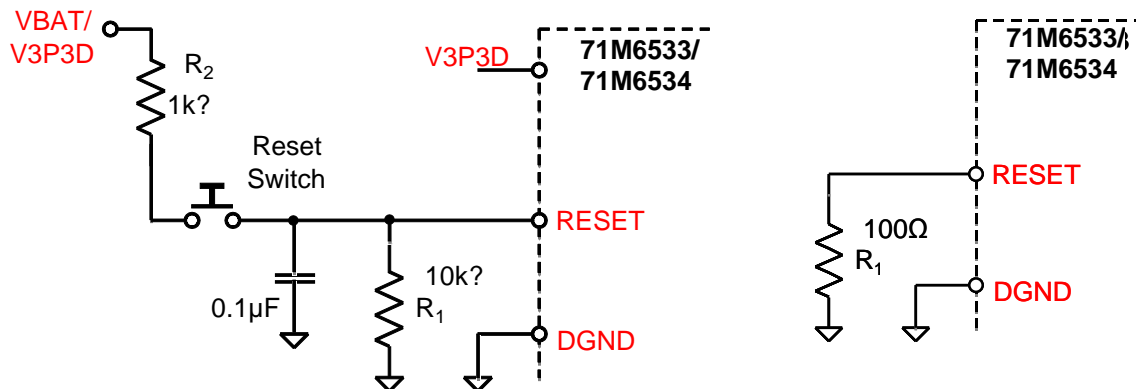

Figure 39: External Components for the RESET Pin: Push-Button (Left), Production Circuit (Right)
Even though a functional meter will not necessarily need a reset switch, it is useful to have a reset push-button for prototyping as shown in Figure 39, left side. The RESET signal may be sourced from V3P3SYS (functional in MISSION mode only), V3P3D (MISSION and BROWNOUT modes), or VBAT (all modes, if a battery is present), or from a combination of these sources, depending on the application.
For a production meter, the RESET pin should be protected by the external components shown in Figure 39, right side. R1 should be in the range of 100Ω and mounted as closely as possible to the IC.
- ✓ Since the 71M6533 and 71M6534 generates its own power-on reset, a reset button or circuitry, as shown in Figure 39, is only required for test units and prototypes.